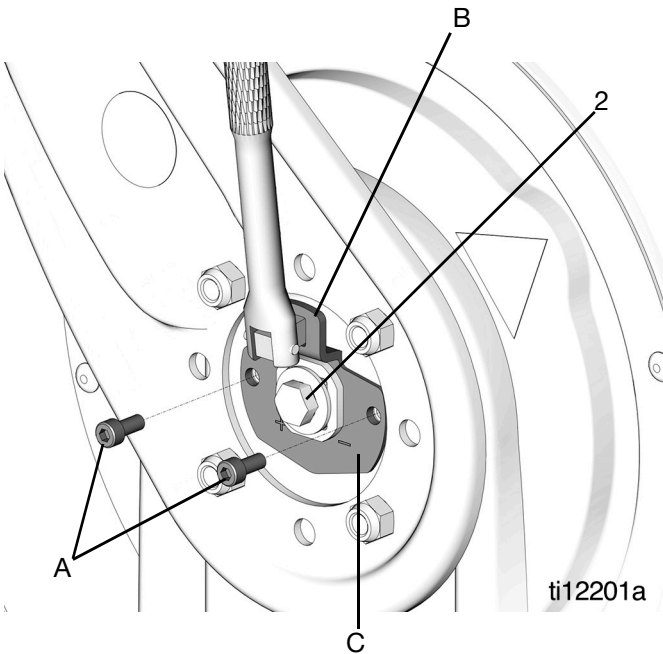

FIG. 2
- b. Loosen screw (2) 3 to 5 turns. Do not completely remove it (FIG. 2).
- c. Using a hex wrench, loosen the two screws (A). Do not completely remove them (FIG. 2).
- d. Insert a 3/8 in. square drive breaker bar into opening (B) on the spring adjustment plate (C) (FIG. 2).
- e. While holding the breaker bar securely, completely remove the two screws (A) (FIG. 2).
- f. While firmly grasping the breaker bar with both hands, turn it counter-clockwise one turn at a time until the spring tension is reduced to zero (FIG. 2).
11. Install the swivel-side pedestal (G) onto the reel.
12. Replace the nut (10) and screws (1).
13. Reinstall screw (2) and washer (3).
14. Connect the hose (not shown) to the elbow (11).
- b. Insert a 3/8 in. square drive breaker bar into the opening (B) on the spring adjustment plate (C) (see FIG. 2 on page 6).
- c. Firmly grasp the breaker bar with both hands and turn it clockwise one turn at a time to increase (tighten) the spring tension. This is typically 3 to 5 turns (see FIG. 2 on page 6).
- d. Replace and partially tighten one screw (A). Remove the breaker bar (see FIG. 2 on page 6).
- f. If additional tension is required, insert the breaker bar into the bracket again and remove the screw (A). Repeat steps c through e.
- g. Once the tension is set correctly, tighten screws (A) and (2).